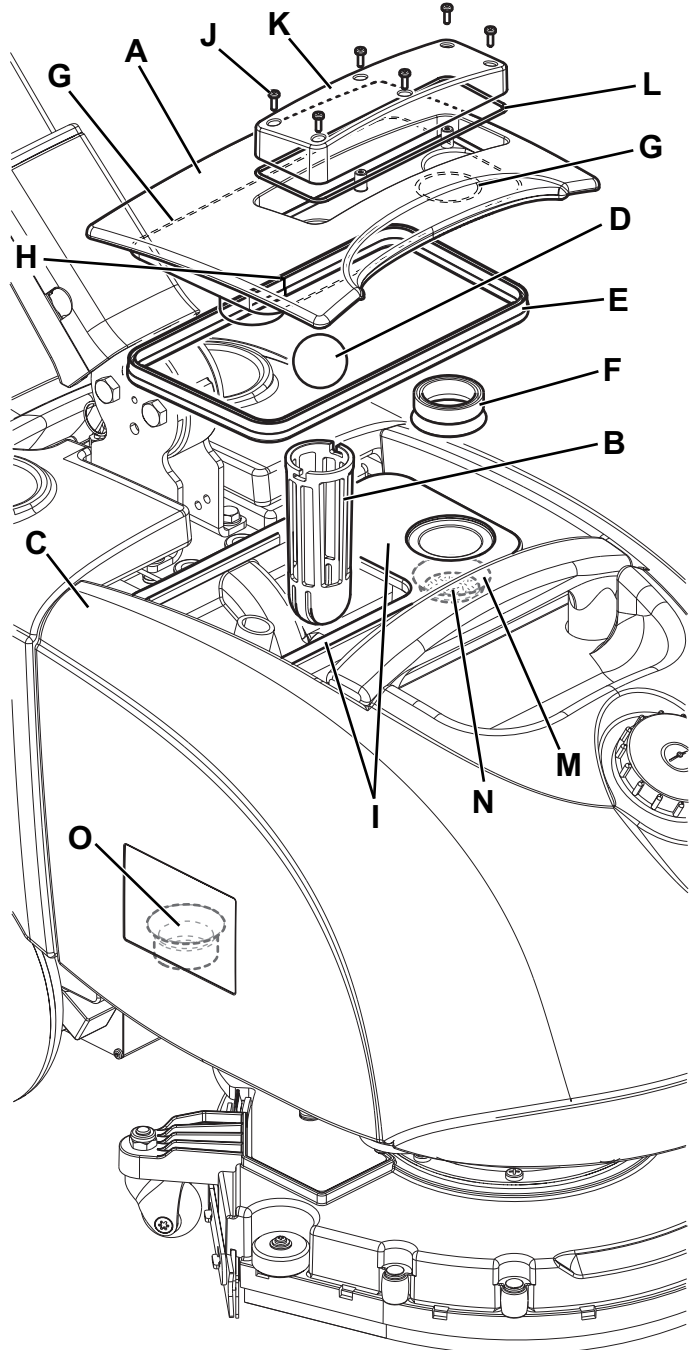

Figure 5
2. Turn the knob (32) to "0" and disconnect the battery (7).
3. Lift the cover (A, Fig. 5), then clean and wash the cover and the vacuum grid (B) with clean water. Drain the water from the tanks (C) and clean them.
4. If necessary, disengage the grid (B) by turning it and remove the float (D), then clean with care and reinstall.
5. Check the gaskets (E) and (F) for integrity.